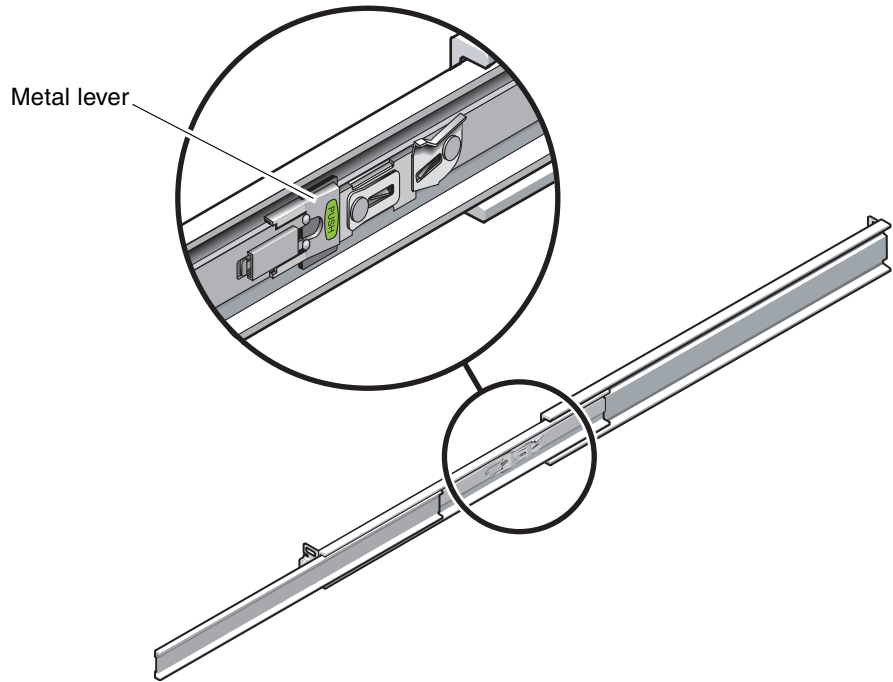

FIGURE 2-23 Unlocking the Slide Rail Lever Stops
5. When the server is fully extended out, release the slide rail lever stops (FIGURE 2-23).